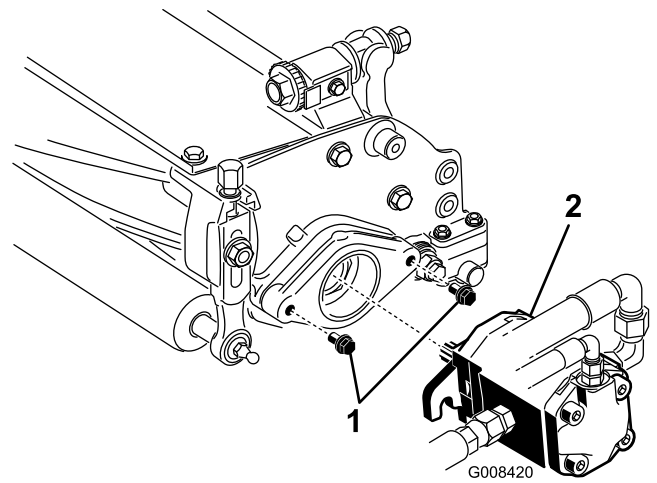

Figure 18
10. Assemble the mounting screws for the reel drive motor to each cutting unit. Leave approximately 1/2 in. (13 mm) of the threads exposed on each mounting screw (Figure 18).
12. Coat the spline shaft of the motor with clean grease and install the motor by rotating the motor clockwise so the motor flanges clear the studs. Rotate the motor counterclockwise until the flanges are encircling the studs (Figure 18).
13. **Tighten the mounting bolts** (Figure 18).